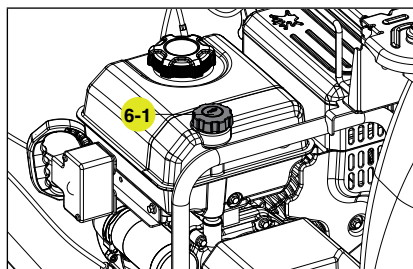

Figure 6
2. Remove the oil cap/dipstick (6-1) and wipe it clean (Fig. 6).